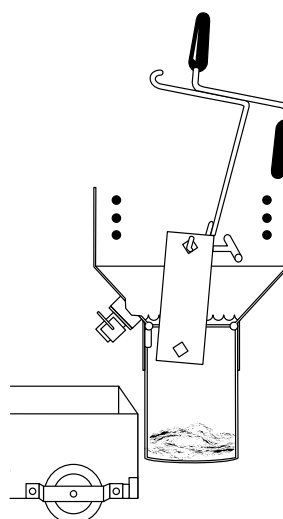

FIGURE 22
4. **Remove Heat Plate** - Inspect from above to see that cooking oil has drained out of cookpot down to level of drain valve. Wearing safety gloves, remove heat plate with basket drain hook (Figure 22) and place in safe area to cool.